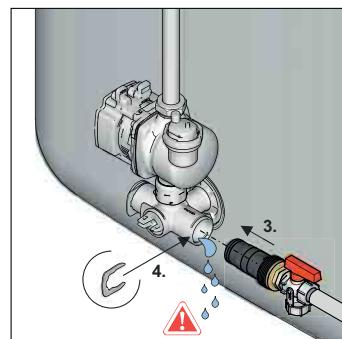

Fig. 5-3 Assembling the KFE filling connection in the connecting elbow
- Insert the **KFE filling connection** (**KFE BA**, **16 52 15**) into the connection elbow and secure with the clamp (fig. 5-3).